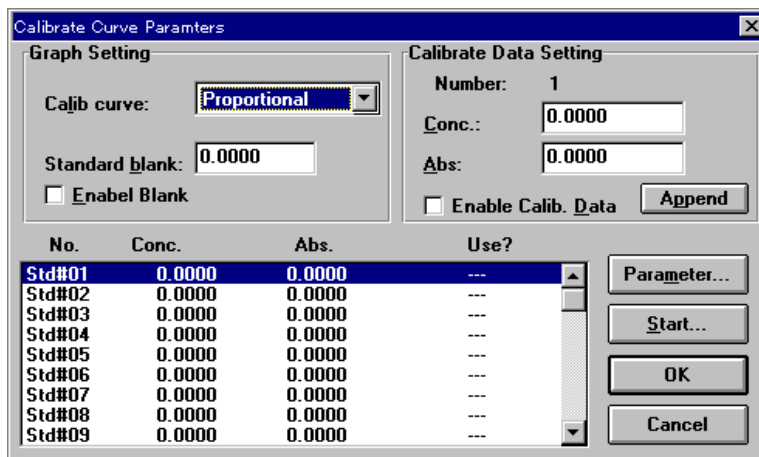

Figure 4.13 [Calibrate Curve Parameters] dialog box
1-wavelength: For common solution sample. See Fig. 4.13 (1).
2-wavelength: For baseline correction. See Fig. 4.13 (2).
3-wavelength: For baseline correction. See Fig. 4.13 (3).